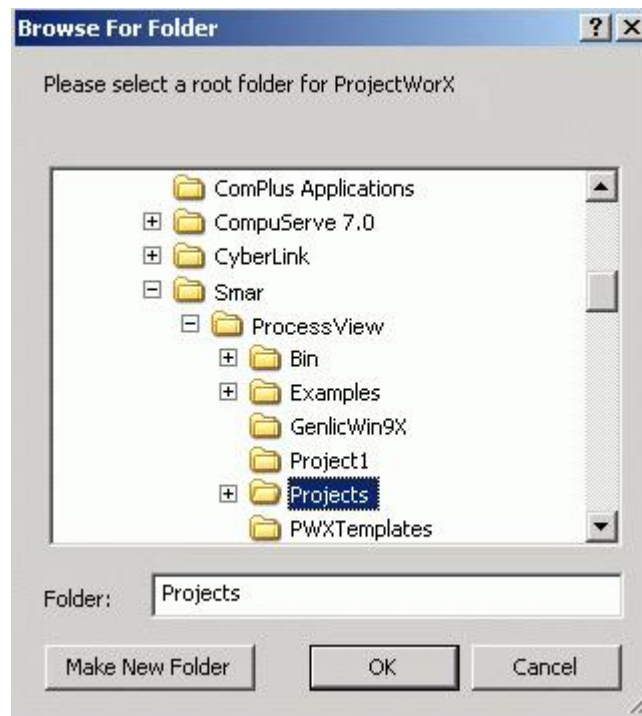

Figure 9.1. Main Projects Folder Selection
2. The first time you open ProjectWorX, you are asked to select a folder in which the ProjectWorX database will be stored, as shown in **Figure 9.1**. Browse for a projects folder, and then click **OK**.